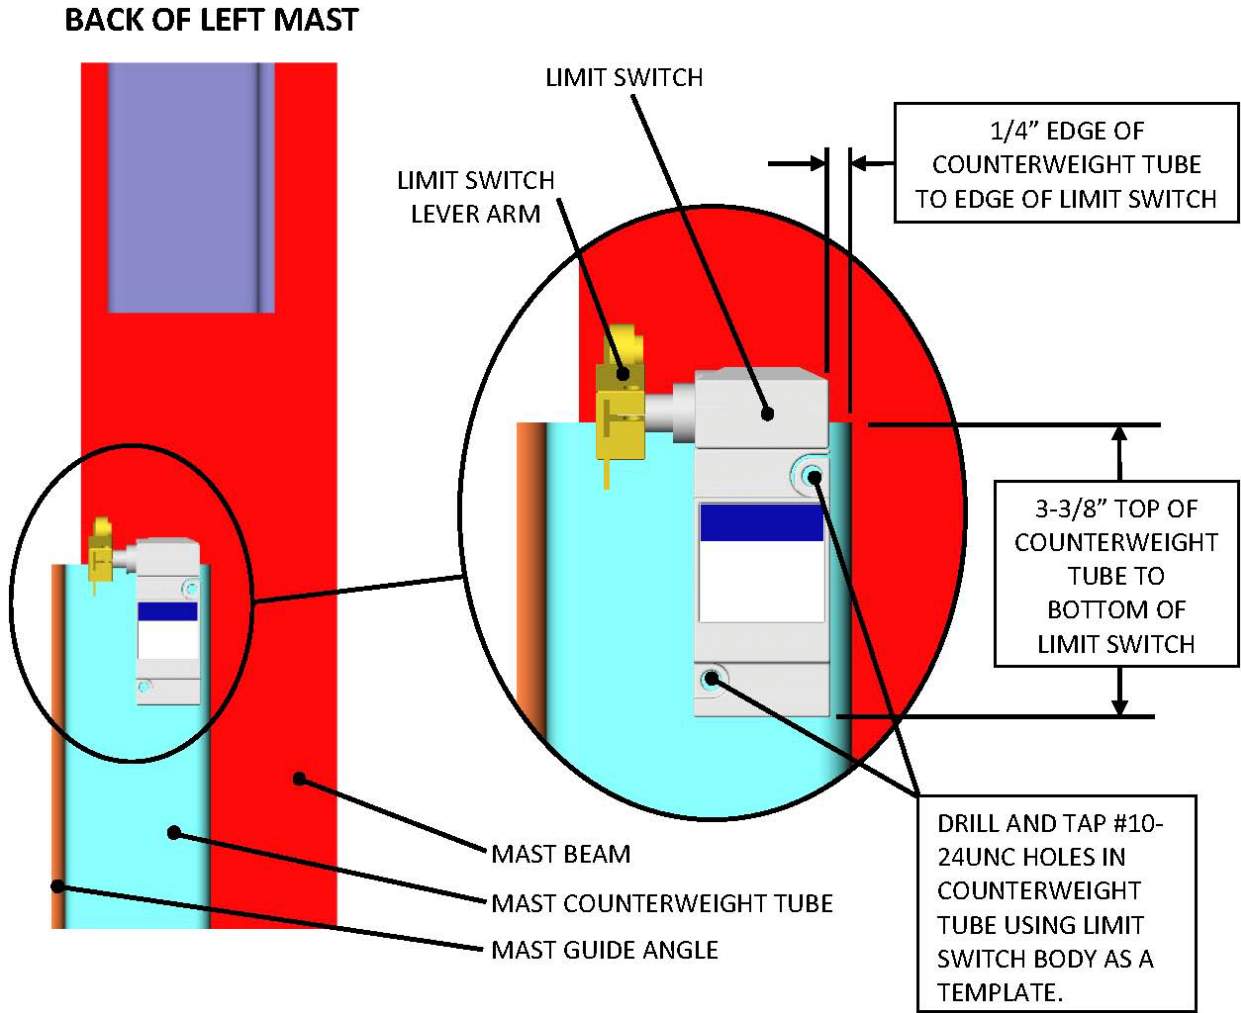

Figure 2a. Sensing Switch Installation – Lifts with No Pre-Existing Mounting Plate
- i. Use **Figures 2a and 2b** – if the lift was installed prior to 11/2006 and/or there is no sensing switch mounting plate pre-welded to the top of the counterweight tube. Use the switch body as a template in the position shown, mark the hole position, and drill and tap as instructed to mount the switch with the hardware provided.